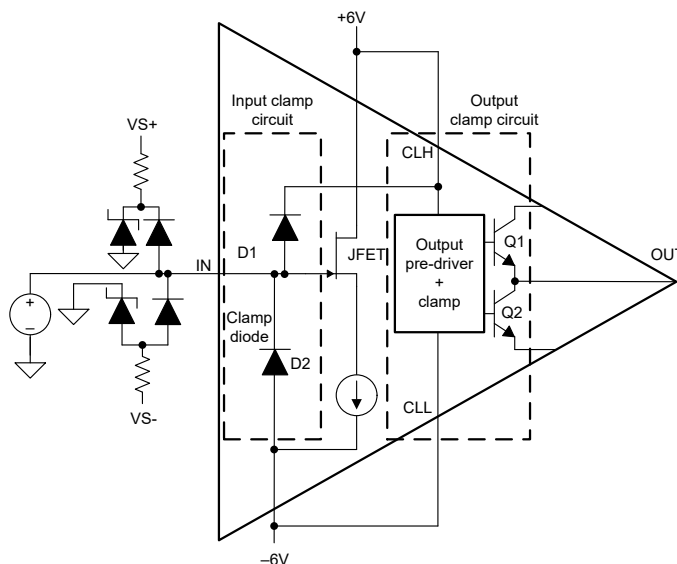

Figure 7-2. External Input Clamp Circuit
- Figure 7-2 shows how the external clamping diodes is used in cases where the 100mA current rating of D1 and D2 is insufficient. When using external clamping, disable the internal protection of the BUF802 by connecting CLH and CLL to V_{S+} and V_{S-} .
- Figure 7-2 shows that the internal clamps are disabled by connecting CLH to V_{S+} and CLL to V_{S-} . When the clamps are disabled, the maximum output swing is limited by the output swing specification described in Section 5.5. Section 5.7 shows the response time and accuracy of the output clamp.